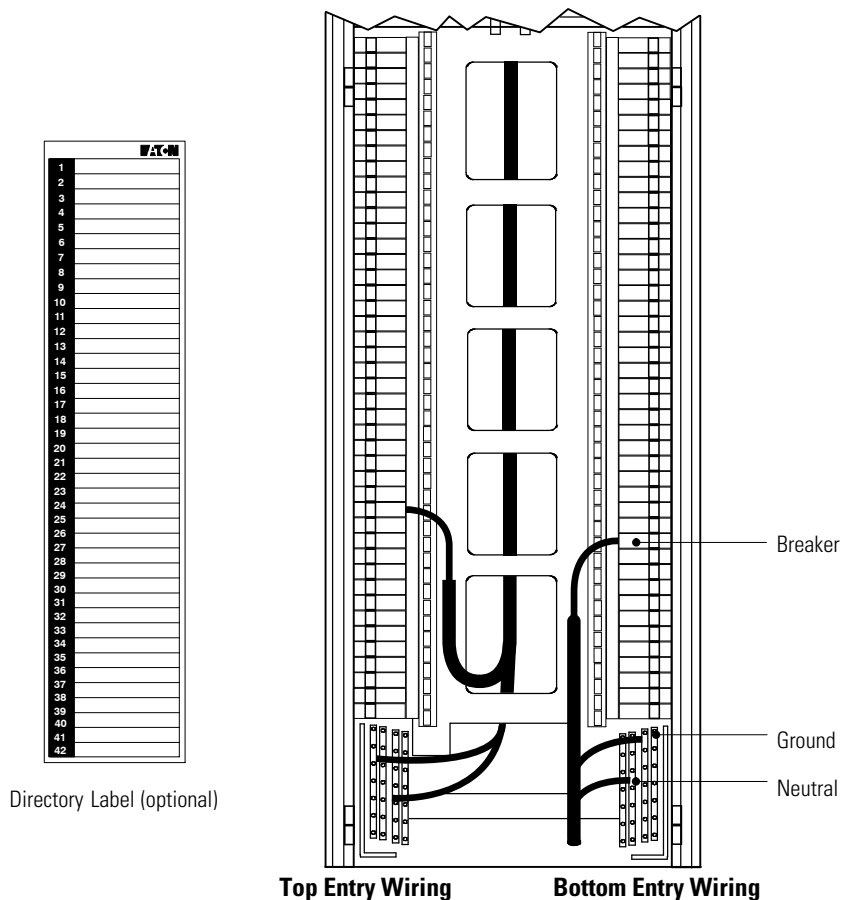

Figure 20. Wiring the Output Connections
17. Connect the output power to the 42-pole circuit breaker panelboards according to the branch circuit breaker manufacturer’s ratings and instructions, Figure 20, and Table 4. For each pole, install the customer-supplied branch circuit breaker (if not factory-installed) and wire the breaker, ground, and neutral wires. Balance the loads. Provide adequate strain relief and retention for each wire.
18. Optional. Directory labels (see Figure 20) are installed on the inside of the interior barriers for identifying branch circuit numbers and equipment being served. Use an erasable pen or #2 pencil to identify the breakers.